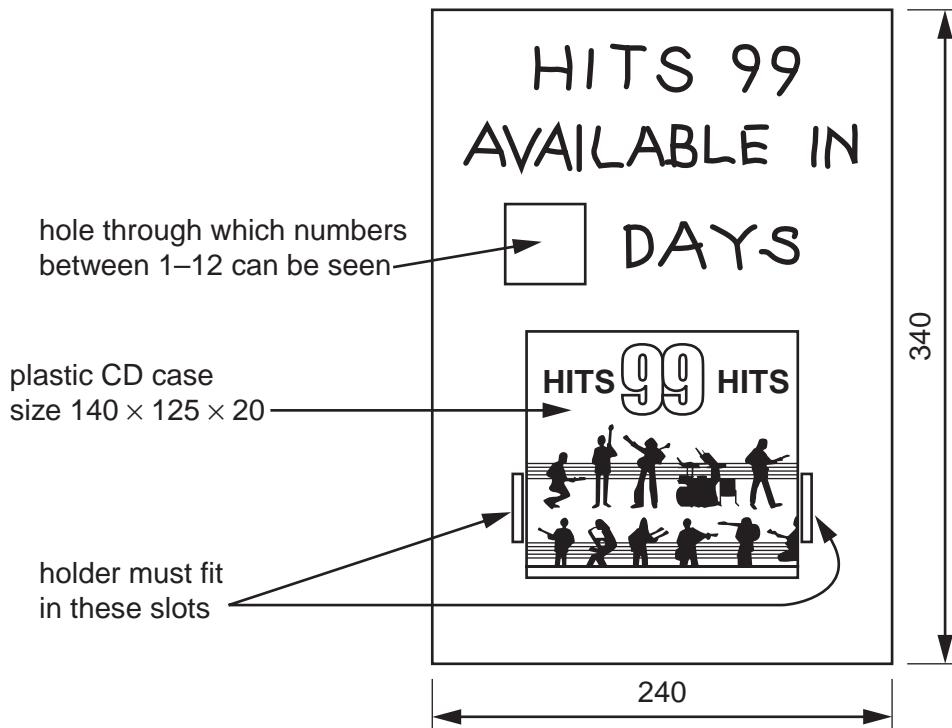

Fig. 9
- 8 Fig. 9 shows an incomplete idea for a point of sale display stand advertising a new disc). The display stand is made from card.
- (d) Using notes and sketches, develop a design for the lettering shown in Fig. 9 to go on the stand in the given position. [16]